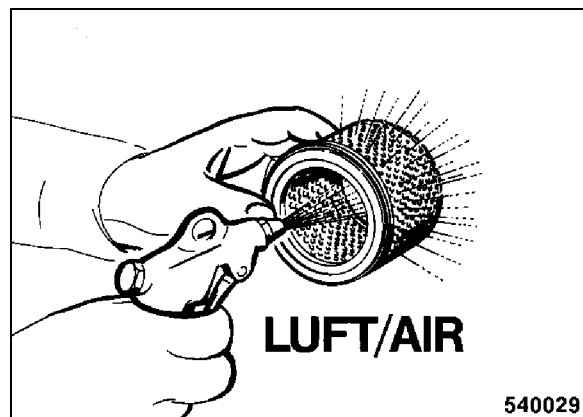

Fig. 60
- In case of dry fine dust blow out the filter cartridge carefully from inside to outside with dry, clean compressed air (Fig. 60) (max. 6 bar).